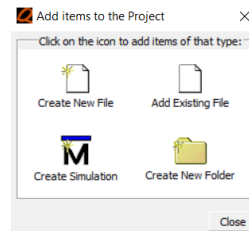

Fig. 3.4: Add items to the Project window.
3. A new window will open (Fig. 3.4) select *Add Existing File*.